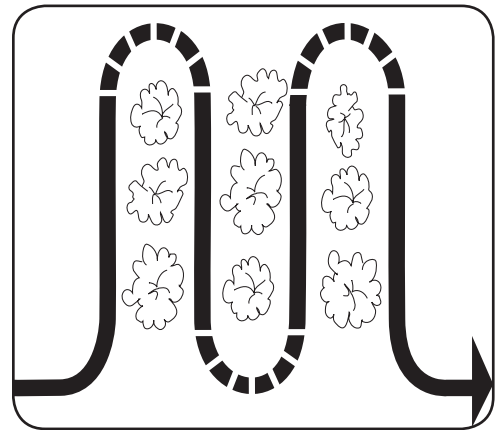

Figure 4-4
- When cultivating (breaking up the surface soil around the plants to destroy weeds, see Figure 4-4), adjust the tines to dig only 1" to 2" deep. Using the shallow tilling depth helps prevent injury to the plants whose roots often grow close to the surface. If needed, lift up on the handlebars slightly to prevent the tines from digging too deeply. (Cultivating on a regular basis not only eliminates weeds, it also loosens and aerates the soil for better moisture absorption and faster plant growth.) Watering the garden area a few days prior to tilling will make tilling easier, as will letting the newly worked soil set for a day or two before making a final, deep tilling pass.